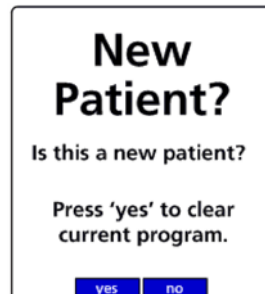

Figure 28. New Patient Screen.
- Press the **no** soft key to retain the previously programmed infusion values. See Figure 28.